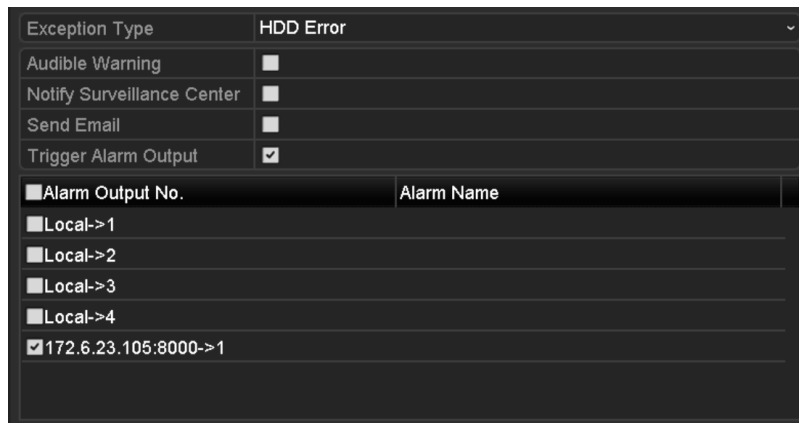

Figure 13-27 Configure HDD Error Alarm
Step 3 Click the checkbox(s) below to select the HDD error alarm type (s), as shown in Figure 13-27.